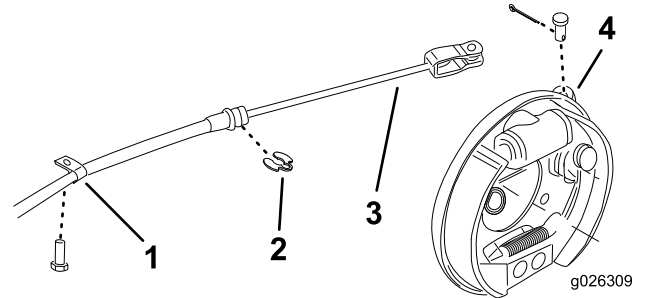

Figure 2
2. Remove the cotter pins and clevis pins securing the parking brake cables to the rear wheel brake levers (Figure 2).
3. Remove the R-clamps and C-clips securing the brake cables to the frame (Figure 2).